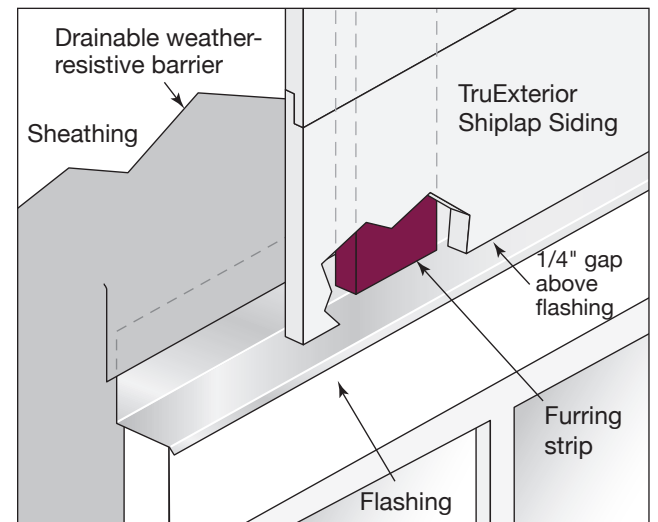

Fig. 53
- Install flashing behind the weather barrier and furring strip and allow a 1/4" clearance from the siding to the tops of windows, doors and bottoms of walls (**Fig. 53**)